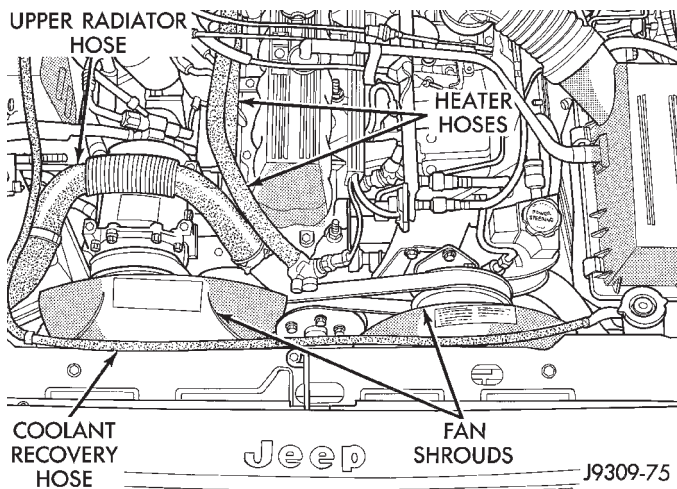

Fig. 13 Upper Radiator Hose, Coolant Recovery Hose, Fan Shroud & Heater hoses
(3) Remove the radiator drain cock and radiator cap to drain the coolant. DO NOT waste usable coolant. If the solution is clean, drain the coolant into a clean container for reuse.
(4) Remove the lower radiator hose.
(5) Remove the upper radiator hose and coolant recovery hose (Fig. 13).
(6) Remove upper radiator support retaining bolts and remove radiator support.
(7) Remove the fan shroud (Fig. 13) and electric cooling fan.
(8) Disconnect the transmission fluid cooler tubing (automatic transmission).
(9) Disconnect radiator fan switch wire connector.
(10) Vehicles with Air Conditioning:
(11) Remove the radiator or radiator/condenser (if equipped with A/C).
(12) Remove the fan assembly from the idler pulley.
(13) Disconnect the heater hoses at the engine thermostat housing and water pump (Figs. 13 and 14).